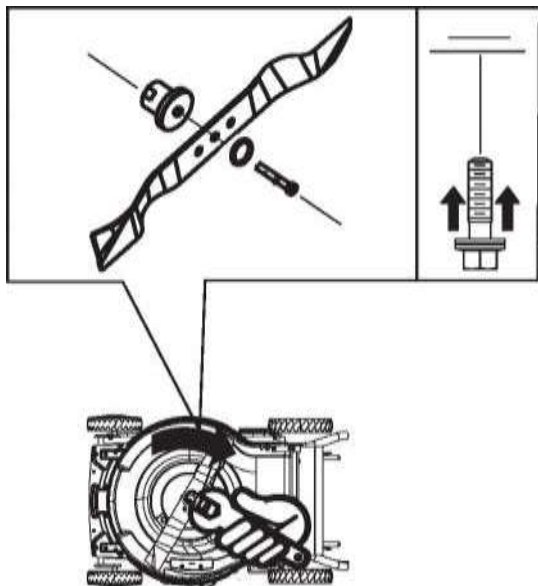

Figure 16
3. Tip the mower onto its side, with the dipstick down, to drain the used oil out through the oil fill tube.(Figure 16)
(Figure 16)